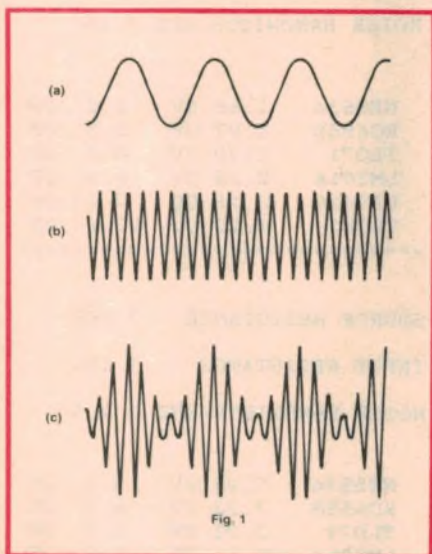

Fig.1: when an RF wave (b) is amplitude modulated by an audio signal (a) the modulated waveform mirrors the shape of the audio envelope, as shown in (c).
A radio frequency carrier may be "modulated", or have an audio signal imposed on it in a variety of ways, the original and most common method being amplitude modulation (AM) as illustrated in Fig.1. When an audio signal (a) is amplitude modulated on to a radio frequency carrier (b), the modulated carrier takes on the form depicted in (c), its amplitude varying in sympathy
While most readers will be familiar with Fig.1, not everyone may realise that, by its very nature, the process of modulation generates additional high frequency signal components distributed (usually) on either side of the original carrier frequency.